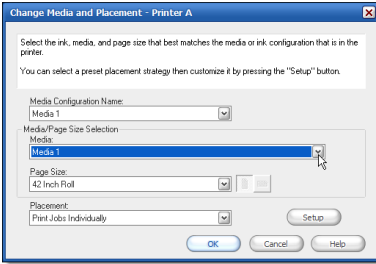

Figure 4—Change Media and Placement
3. Select your USB device from the available options, and click **OK** (see Figure 4).
3. If the information in the program matches your media, you are ready to print. If not, click **Change** on the right-side of the main screen. This opens the Change Media and Placement dialog (see Figure 4).